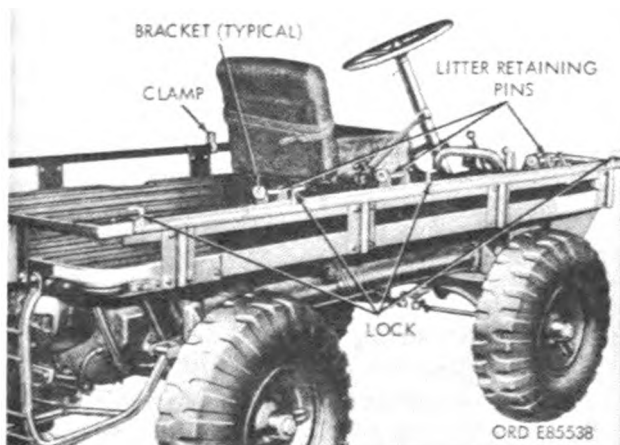

Figure 4-1. Location of litter-retaining pins, locks, and clamp.
(1) Disconnect litter-retaining pin from rail assembly (fig. 4-1) by depressing spring-loaded ball detent and pulling pin from bracket.
(3) Coordinate with unit maintenance personnel and install clamp (fig. 4-1) on left hand rail to secure litter(s).